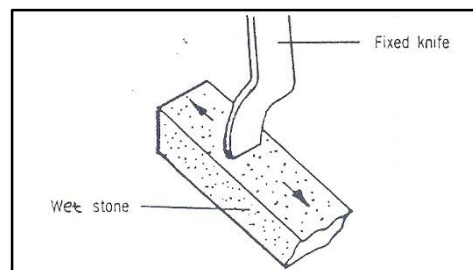

Figure 7.20
B. If the point of the blade is dull sharpen using an oil stone. Refer to Fig 7.20.